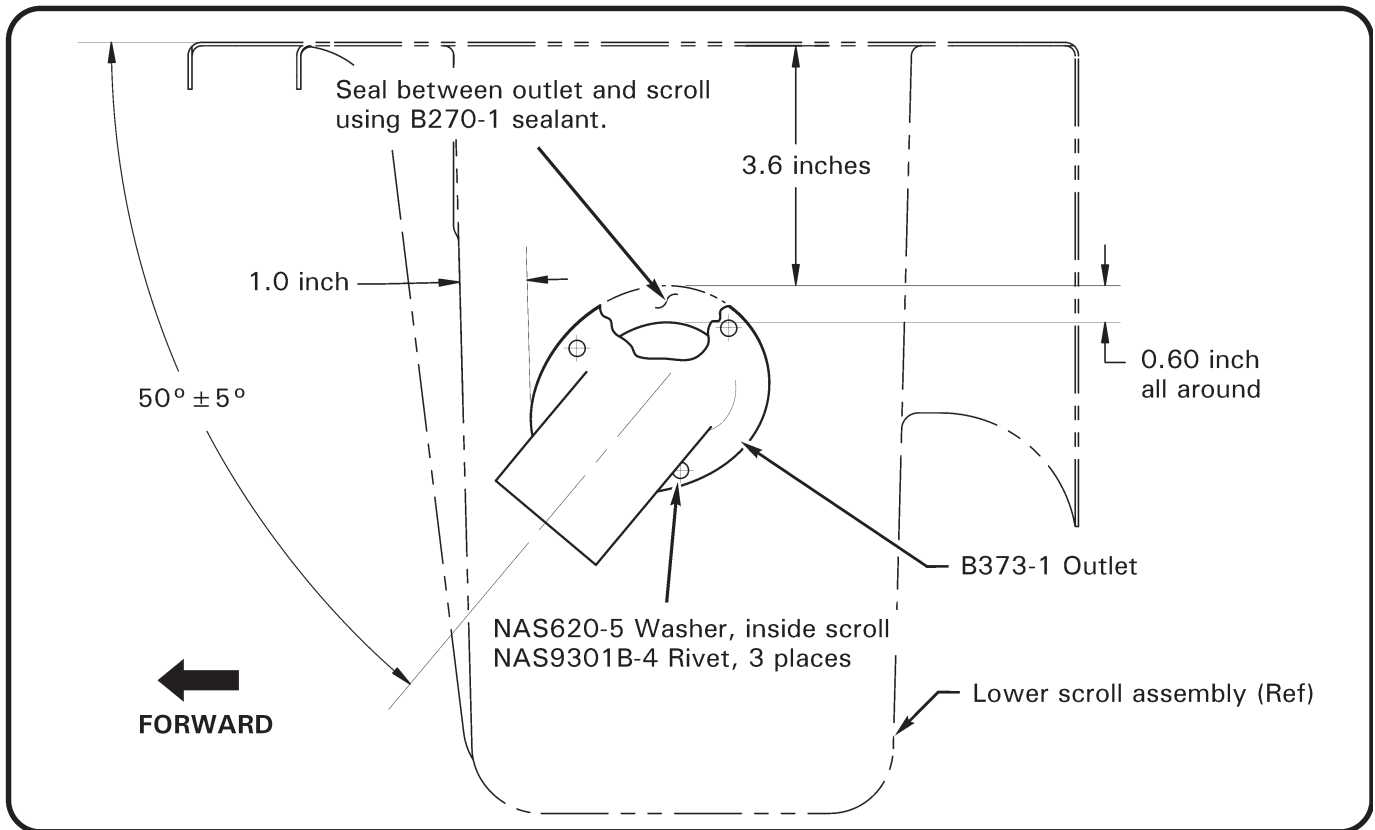

FIGURE 2
10. Refer to Figure 2. Position B373-1 outlet on lower scroll as shown. Mark outer edge of outlet and rivet holes onto scroll. Measure and mark a second line 0.60 inch inside of first line.
12. Position B373-1 outlet over newly formed hole, holding dimensions shown in Figure 2. Drill 0.128-inch (#30 drill size) diameter rivet holes in scroll using outlet as guide.
13. Apply a layer of B270-1 sealant on mating surface of B373-1 outlet lip, forming a gasket-like seal. Position outlet on scroll, aligning rivet holes. Install (3) NAS9301B-4-02 or -03 rivets and (3) NAS620-5 washers, with washers inside of scroll.